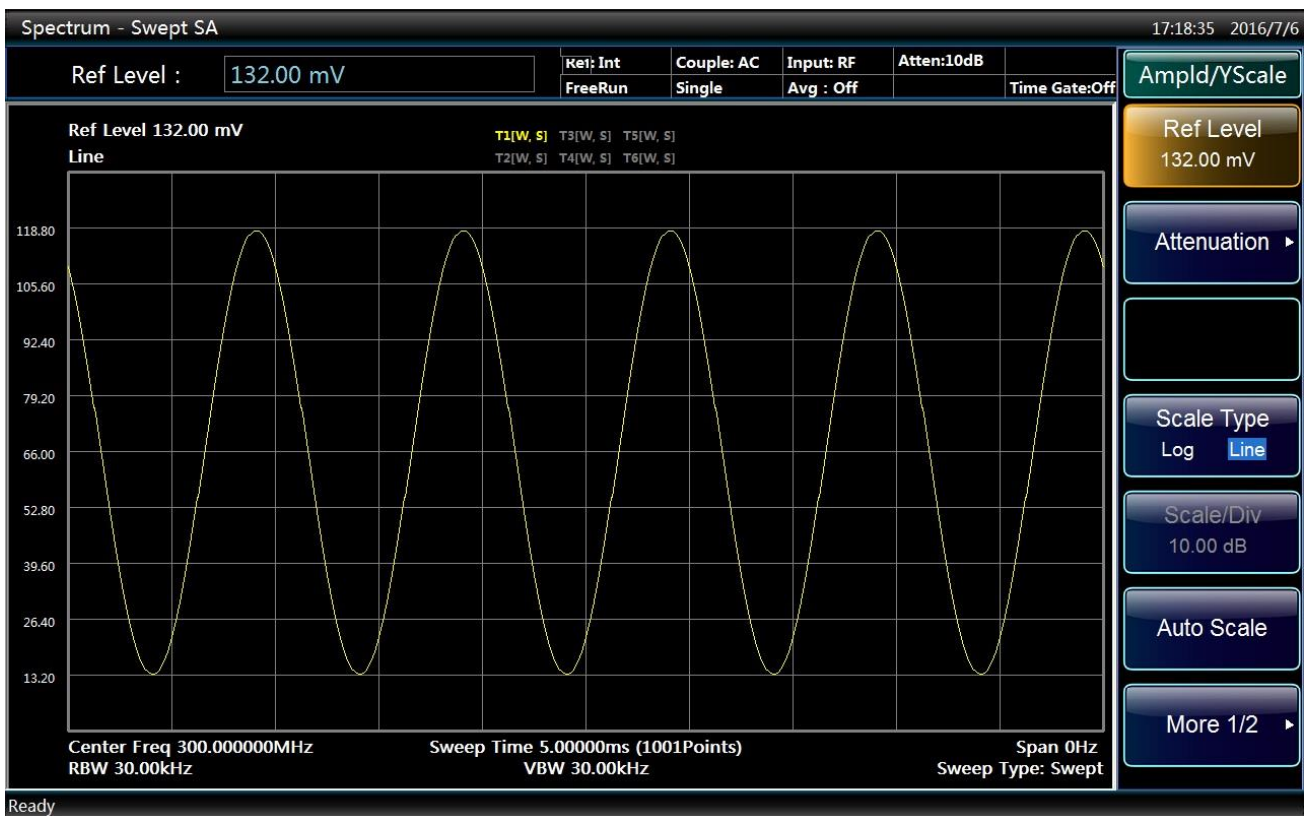

Fig. 4.36 Measure AM signal modulation depth with demodulation waveform
- To obtain a modulation depth in percentage, the following method can be used to read the trace: 100% AM modulation depth takes up all the grids from top to bottom, while 80% AM (as shown in this example) takes up grids from second from the top to second from the bottom. The number of grids taken up by Y axis can be counted to determine signal modulation depth percentage, as shown in Fig. 4.36.